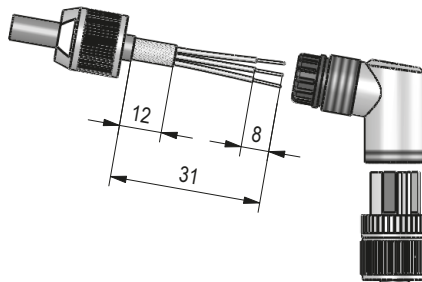

Fig. 6: Right angle mating connector M12 A coded
- Accessory SIKO art. no. "83091" M12 A coded (socket 4 pole Power) (**Fig. 6**).
### Mounting (Fig. 6)
### Changing the angle position (Fig. 6)